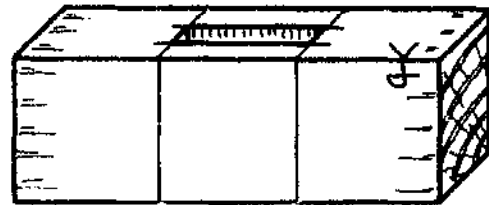

Fig. 8
- When most of the waste is out, chisel out the remainder to the line (Fig. 8).